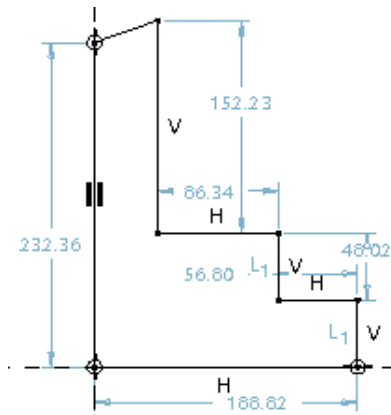

Figure 3-52 Sketch with weak dimensions
- d. Draw the sketch for the revolve feature and a center line to revolve it using the sketching tools and apply dimensions, refer to Figures 3-52 through 3-54.
1. Choose the **Create 2 point lines** button from the **Sketcher Tools** toolbar. Draw the sketch, as shown in Figure 3-52. The sketch should be a closed loop and the bottom horizontal line should be aligned to the **TOP** datum plane.
2. Choose the black arrow on the right of the **Create 2 point lines** button to display the flyout. From this flyout, choose the **Create 2 point centerlines** button. Draw the center line for the axis of revolution. The center line should be drawn such that it is aligned with the **RIGHT** datum plane, see Figure 3-52.